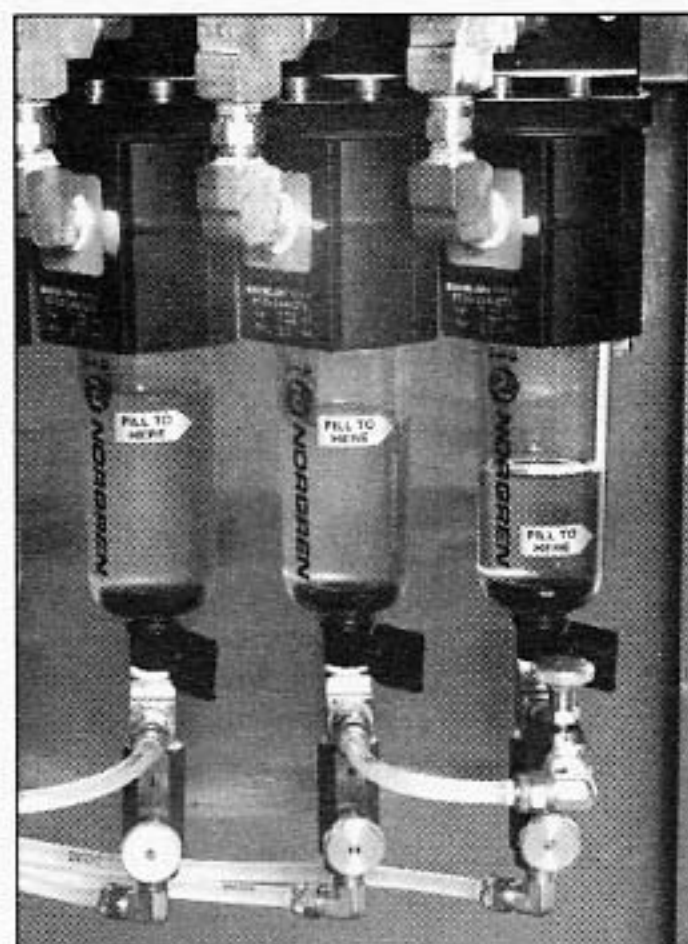

Fig. 37
If the Mineral Oil Level in Reservoir (D) is above the full line and the Oil Level in Reservoir (C) is below the full line (see fig. 37), turn Air ON and Loosen Locking Nut just below Right Oil Leveling Valve Knob (see fig. 33). OPEN the Right Oil Leveling Valve Knob COUNTERCLOCKWISE. The Oil Level in Reservoir (D) will decrease and the Oil Level in Reservoir (C) will increase. When the Oil Level in Reservoir (C) reaches the full line, turn the Right Oil Leveling Valve Knob CLOCKWISE TO STOP the flow of oil. Retighten Locking Nut on this Valve.